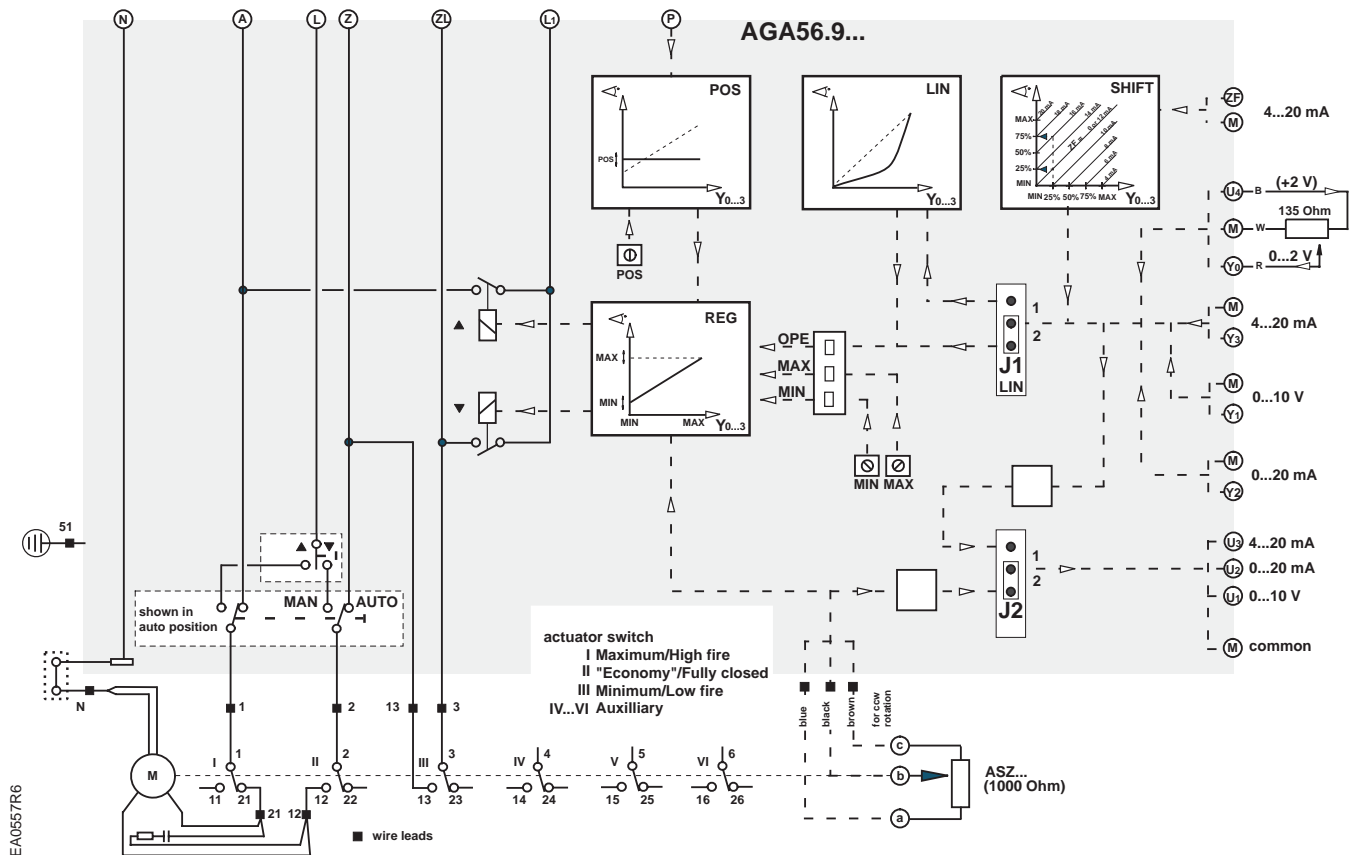

Figure 4. Basic Functional Diagram of AGA56.9...
9. Connect the input control signal wires to the appropriate terminals. See Figure 4.